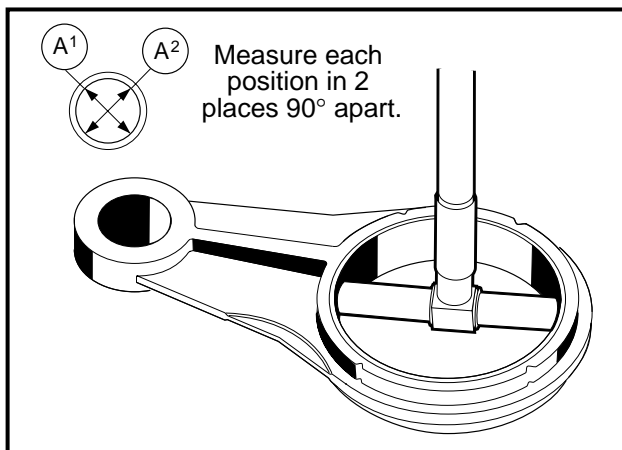

Figure 13-79 Measure Link Rod Large Bore I.D
- 1.3. If the inside diameter of the large end is greater than 1.9726 inches (50.106 mm), replace the link rod (**Figure 13-79, Page 13-37**). See following NOTE.